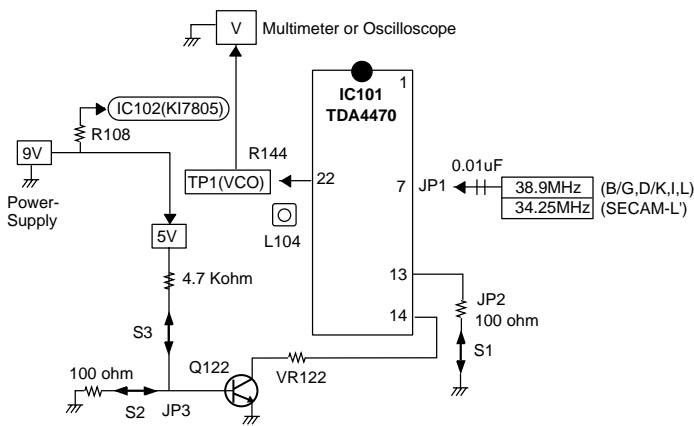

Fig. 1 : Connection Diagram of Equipment for PIF Adjustment
- 1) Connect the measuring equipment to the Main Board as shown in Fig.1.